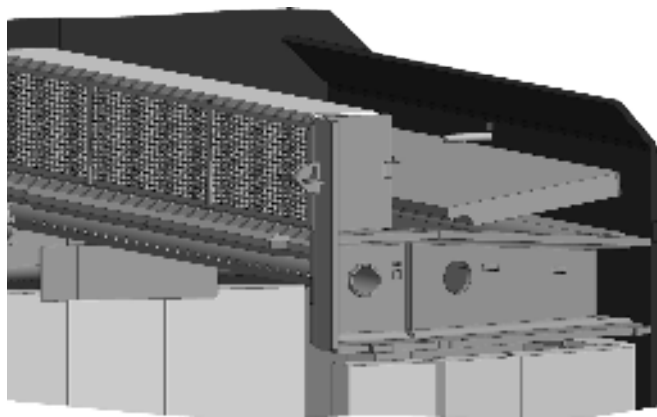

Figure 3.10. Left the rear baffle and rest it on the back of the stove.
1. Open the door and lift the rear baffle up and slide back to rest it on top of the rear manifold member. See fig 3.10